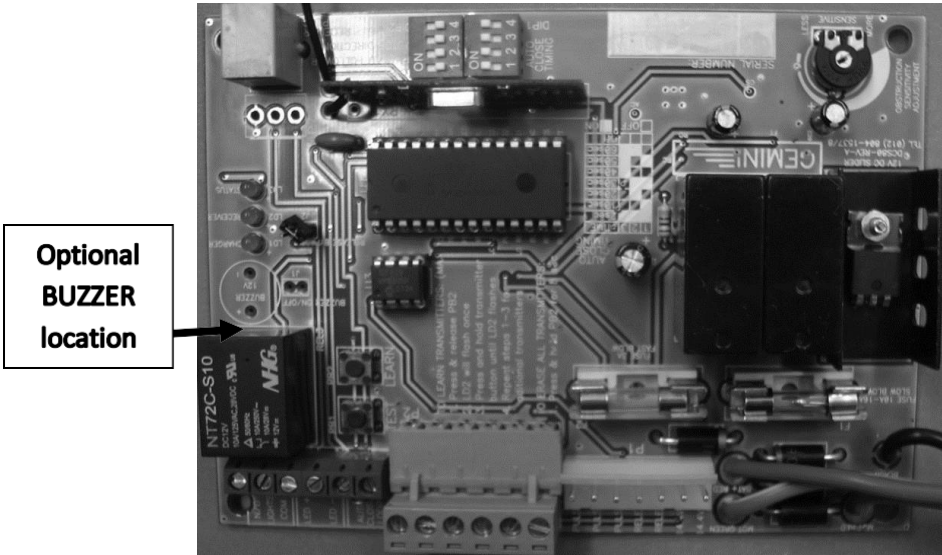

Figure 9
2. The buzzer can be de-activated by removing the buzzer jumper from the electronic control card. See figure 9. This will have no effect on the operation of the gate.